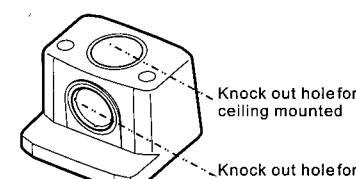

FIG. 5
- Select a knock out hole on the connection box cover. Place one metal ring nut on the sensor thread. Now place the sensor through the chosen knock out hole and fasten with remaining metal nut (See FIG 5.)